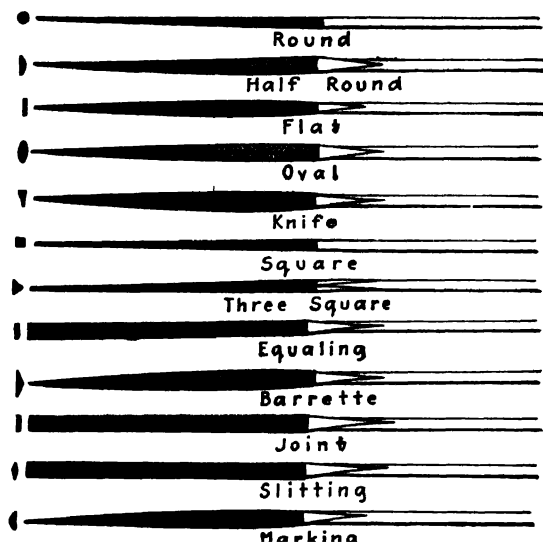

Fig. 5-21. Needle-handle files.
**Needle-handle Files.** The very smallest files are made in the form of "needle-handle files" (Fig. 5-21). They are much used in fine die work and are also very useful in delicate finishing touches